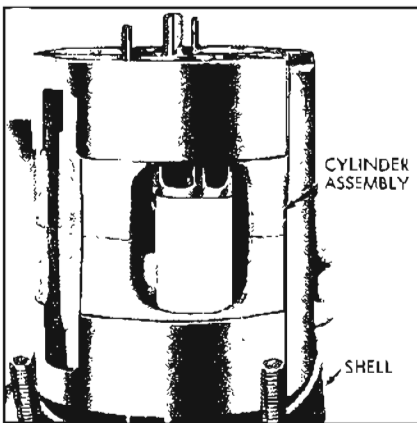

Figure 11-74—Removing Cylinder Assembly
11. Push shaft upward from front head and lift out cylinder assembly (see Figure 11-74), front suction valve reed disc, and front discharge valve plate.